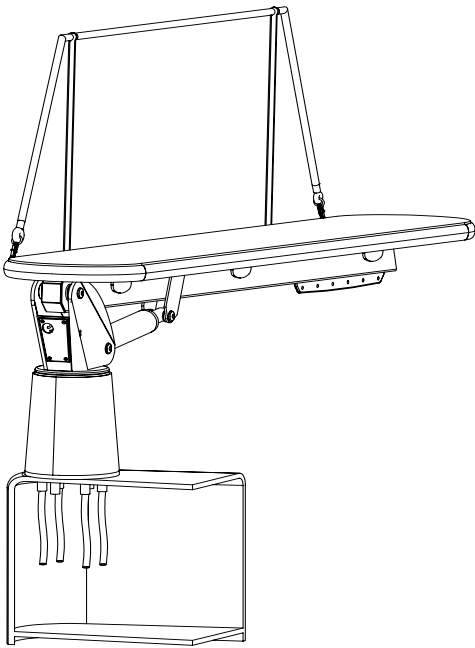
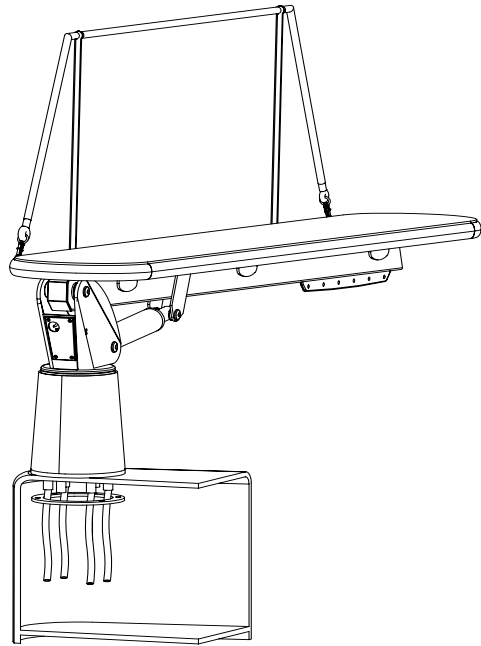

fig. 3
fig. 4
- 3. Lower the crane onto the deck, ensuring correct alignment, carefully passing the hoses through the relevant holes. Fig 3. Bolt the crane into position with clamping plate under the deck to spread the loading using a suitable sealant beneath the deck plate. Fig 4